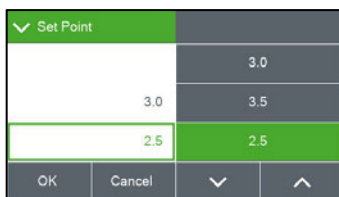

Figure 6-13 Sheath Air Calibration Screens
13. The Sheath Air calibration consists of low, high, and target flow rate points (see Figure 6-13). Press the green bordered Set Point field and select 2.5 (the low flow rate) and then press the grey OK button to return to the Flow Calibration screen.